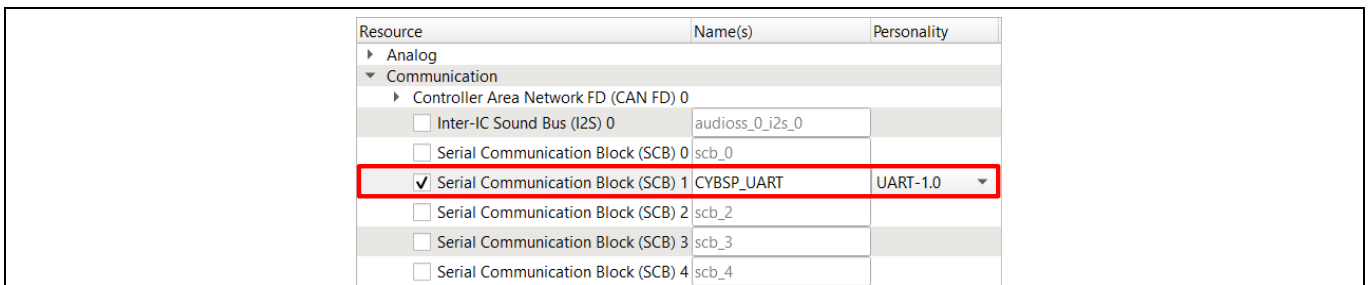

Figure 21 Enabling SCB as UART
- Go to the Peripherals tab in Resource Categories pane and enable Serial Communication Block (SCB) 1, set personality as UART-1.0 and the name as CYBSP_UART. In Figure 21 SCB instance 1 is selected based on Rx/Tx pin required for the kit. See the device datasheet for the pins available for each instance.